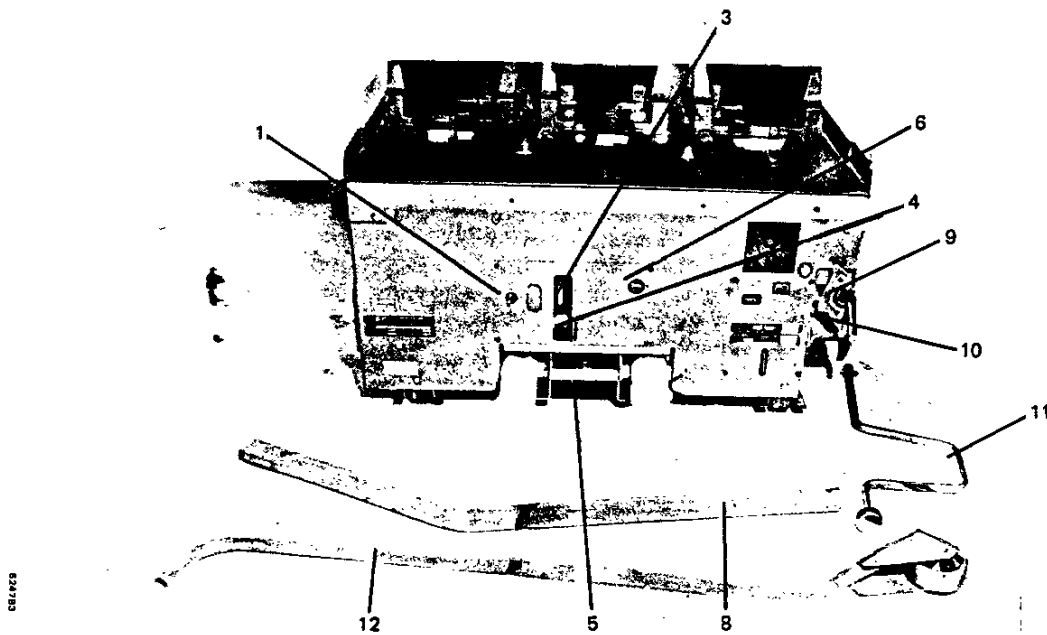

Fig. 3 — Front Circuit Breaker Panel & Accessories
INSTALLING CIRCUIT BREAKER INTO COMPARTMENT (SEE FIGS. 3 & 4)
TURN MOTOR DISCONNECT SWITCH (1, FIG. 3) TO "OFF" POSITION.
FOR INSTALLING THE CIRCUIT BREAKER IN THE LOWER COMPARTMENT, THE FIFTH WHEEL IS USED TO POSITION THE CIRCUIT BREAKER SO THAT IT IS LINED UP WITH THE SWITCHBOARD. ENGAGE THE FIFTH WHEEL (12, FIG. 3) WITH HOLE (5, FIG. 3). THE LIFT DEVICE IS REQUIRED TO LIFT AND POSITION THE CIRCUIT BREAKER FOR INSTALLATION INTO THE UPPER COMPARTMENT.
WITH THE CIRCUIT BREAKER RACKED TO "TEST" POSITION, IT SHOULD BE CHECKED FOR PROPER OPERATION BY OPERATING ALL POSSIBLE MEANS OF OPENING AND CLOSING, THIS INCLUDES CONTROL SWITCHES, RELAYS, ETC. TURN MOTOR DISCONNECT SWITCH (1, FIG. 3) TO "ON" POSITION TO CHARGE THE CLOSING SPRINGS AND OPERATE THE BREAKER AS REQUIRED.
2. FULLY CLOSED BREAKER. (SEE FIG. 3) CHARGE THE CLOSING SPRINGS AND TURN THE MOTOR SWITCH (1) OFF. CLOSE THE BREAKER. ENGAGE MANUAL CHARGE HANDLE (8) WITH CHARGING LEVER (3). DURING THE INITIAL PORTION OF THE DOWNWARD STROKE OF THE HANDLE CHECK TO SEE WHICH DIRECTION THE CLOSING SPRING GUIDES (2) MOVE. IF THE SPRING GUIDES START TO MOVE OUT THEN THE BREAKER DID NOT FULLY CLOSE. IF THE SPRING GUIDE BEGINS TO MOVE IN AND WITH ADDITIONAL PUMPING MOVES IN UNTIL THE MECHANISM CAN BE HEARD TO "SNAP IN", THEN THE BREAKER DID NOT FULLY CLOSE ORIGINALLY. EXCESS CONTACT PRESSURE OR FRICTION CAN CAUSE THIS CONDITION AND IF IT CANNOT BE RELIEVED THEN THE FACTORY SHOULD BE CONSULTED.